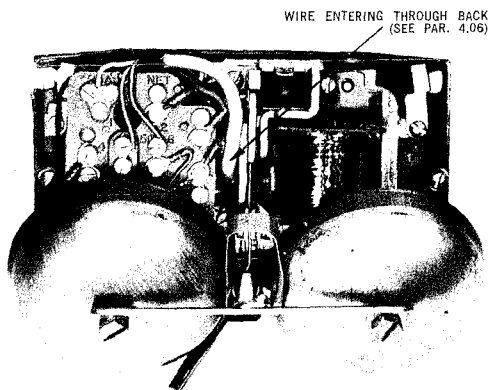

Fig. 3 — Front View of Bell Chime Showing Wire Termination (Entering From Back)
4.06 Installation may be made on a commercial outlet and in locations with concealed wiring. Use the QAA1A Bell Chime Adapter. Note that certain holes in the Bell Chime and Adapter are elongated to assist in levelling the bell chime, (See Fig. 8). An additional wire entrance hole is provided to facilitate the installation of the Bell Chime mounted on a commercial outlet and in locations with concealed wiring. (See Figs. 3 and 4).